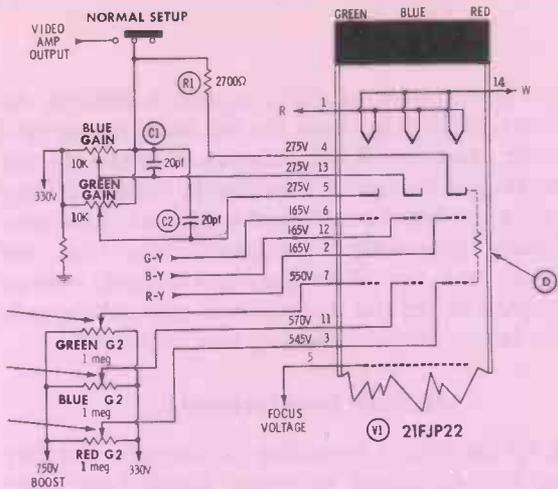

Fig. 2. Interelectrode leakage affects gray-scale adjustment.
Step 4: Check voltages at G2 controls (points A, B, and C, Fig. 2).
last resort. Explanation for this symptom is difficult. As Fig. 2 shows, leakage between the red beam screen grid and cathode caused all three cathodes to follow the red beam screen-grid voltage. Grid-cathode voltage is very critical when the beam conduction is low, as is the case when making gray-scale adjustments. The blue and green beams were cut off by increased cathode voltage which resulted as the red beam screen-grid voltage was increased; hence, proper tracking was impossible.